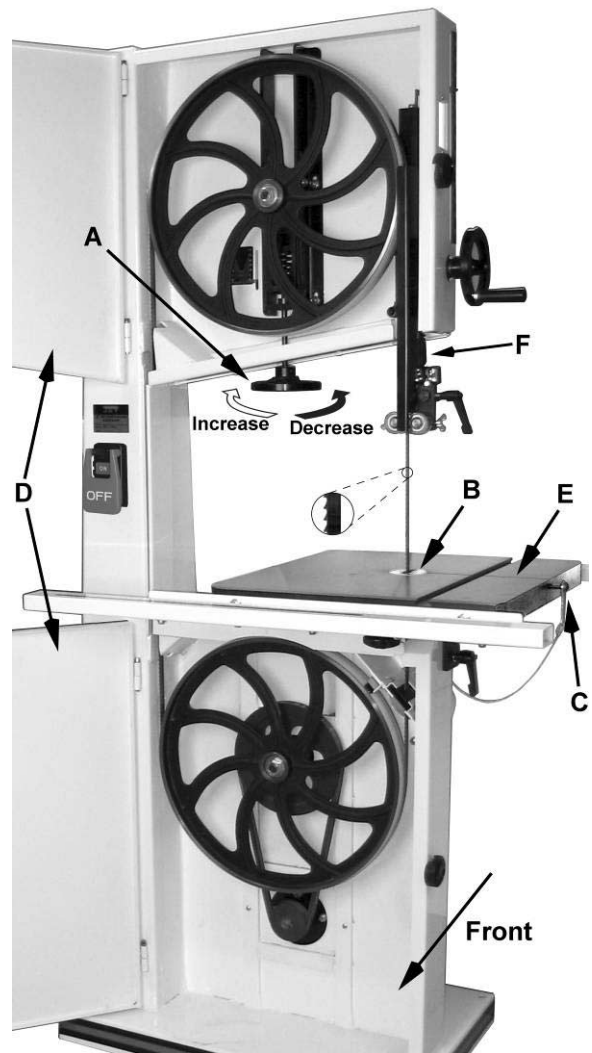
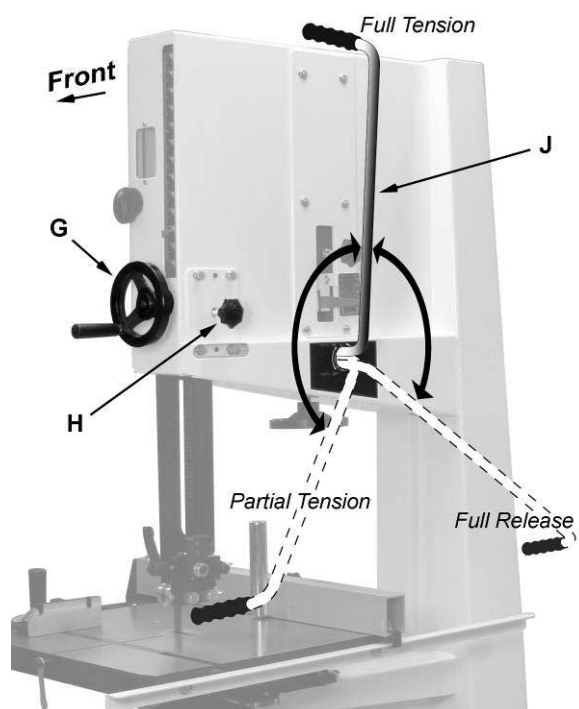

Figure 17
Figure 18
2. Place the *mode selection lever* (J, Fig. 18) in the *Full Release (Blade Change)* position.
Note 2: The *blade tension handwheel* (A, Fig. 17) is primarily used for initial blade tension adjustments (described on following page).
3. Remove the *table insert* (B, Fig. 17).
4. Remove the *tapered pin* (C, Fig. 17) by using the wrench attached together with the pin.
5. Lower the *upper blade guide assembly* (F, Fig. 17) by loosening the *knob* (H, Fig. 18) and rotating the *handwheel* (G, Fig. 18) clockwise.
6. Open *upper and lower front doors* (D, Fig. 17).
7. Carefully remove the blade from between upper and lower blade guides and upper and lower wheels; then remove blade through the *table slot* (E, Fig. 17).
8. Guide new blade through *table slot* (E, Fig. 17). Place blade in upper and lower blade guides.
Note: Make sure blade teeth point down toward table (see inset, Fig. 17), and toward the front of the saw.
10. Replace the *table insert* (B, Fig. 17) and *tapered pin* (C, Fig. 17).
11. Place the lever (J, Fig. 18) to the *Full Tension* or *Partial Tension (Idle/Tracking)* position.
1. Place the *mode selection lever* (F) in the *Full Tension* position (see Figure 18).
Tip: When the band saw is not being used, place the *mode selection lever* (J, Fig. 18) to the *Partial Tension* position – this will prolong the blade's life.
1. Place the *mode selection lever* (J, Fig. 18) in the *Full Tension* position.
Place the *mode selection lever* (J, Fig. 18) in the *Partial Tension* position when the machine is not in use.